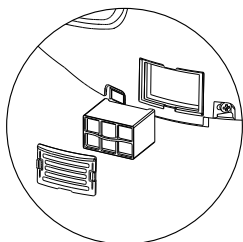

Fig 2
- ☐ Remove cartridge cover as shown (fig 2).
- ☐ Pull deodorizer block out (fig 2).
- ☐ Move cover forward and release from mounting board (fig 2).